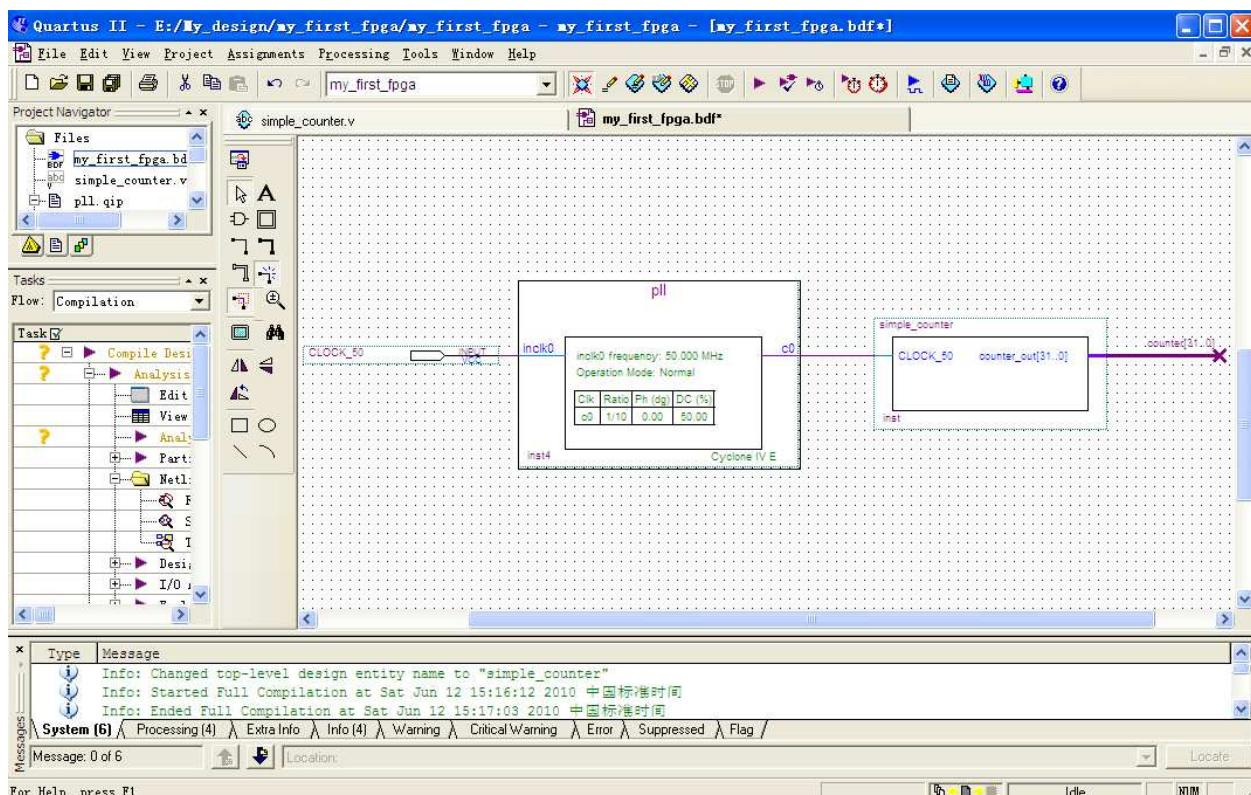

Figure 3-21 BDF
- k. Click OK. Figure 3-21 shows the BDF.